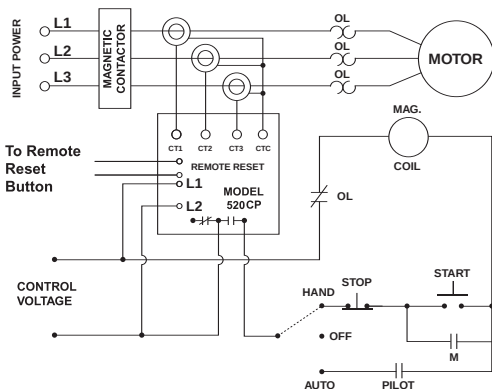

Figure No. 1: Typical Wiring Diagram.
2. Connect the control panel power to L1 and L2 on MotorSaver's terminal strip. See Figure No. 1.
3. Connect the MotorSaver's normally open output contacts in series with the magnetic contactor coil as shown in Figure No. 1.
4. Ensure the proper Current Transformer (CT) size using Table 1.
- Connect each of the three black CT leads to one of MotorSaver's "CT1", "CT2" and "CT3" terminals. Connect the white CT leads together at MotorSaver's "CTC" terminal. See Figure No. 1.